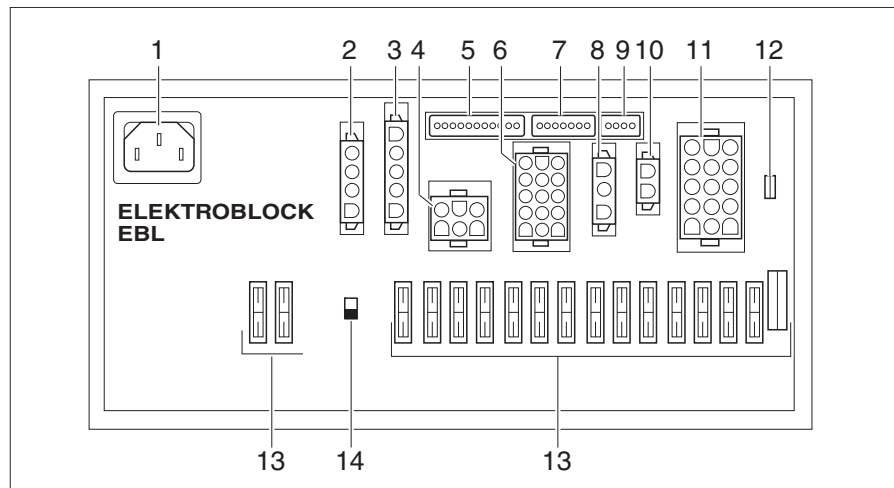

Fig. 264 Transformer/rectifier (EBL 102)
Location Depending on the model, the transformer/rectifier (Fig. 264) is installed in the seat console under the driver's seat or in the garage or bar seating group (Globe-line).
- ▷ The battery cut-off switch (Fig. 264,14) disconnects all the appliances that are connected to the transformer/rectifier from the 12 V network.